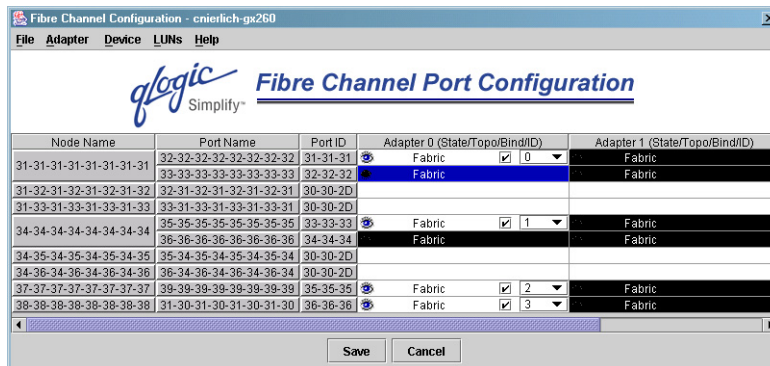

Figure 7-6. Combine Separated Device Configuration
- Click **Yes** to combine the separated device. The new configuration displays, as in figure 7-6 for device node name 34-34-34-34-34-34-34-34.